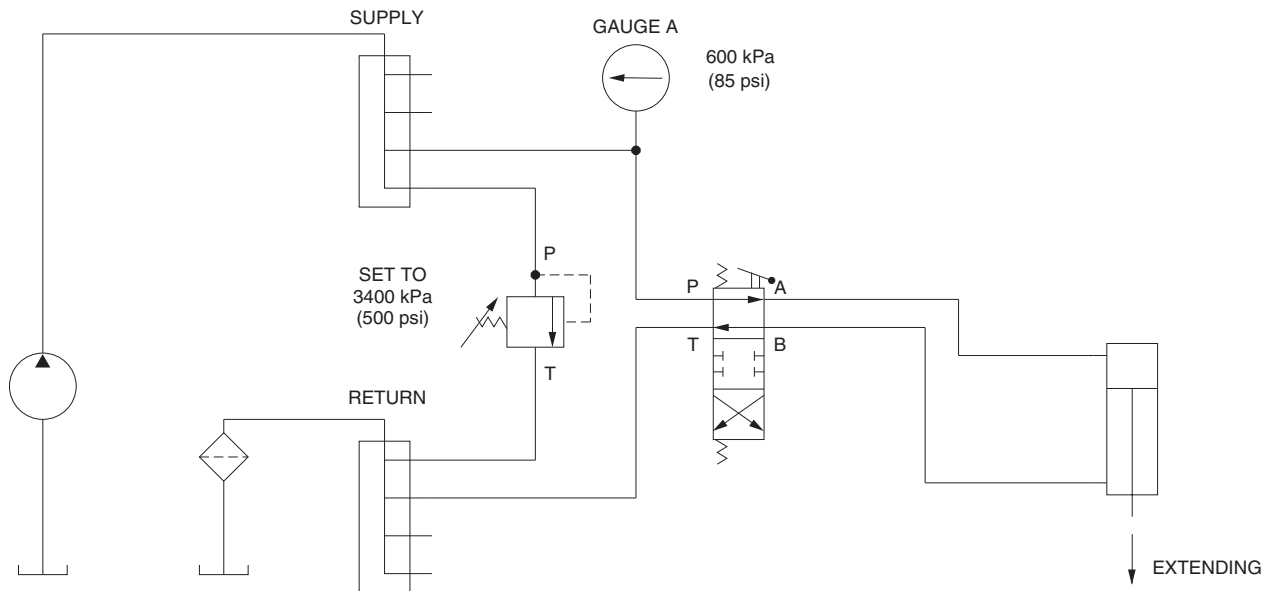

Figure 2-11. Circuit for review question 6.
6. In the circuit of Figure 2-11, what will be the pressure reading of gauge A during cylinder extension and when the cylinder is fully extended if the relief valve pressure setting is changed from 3400 kPa (500 psi) to 6900 kPa (1000 psi)?